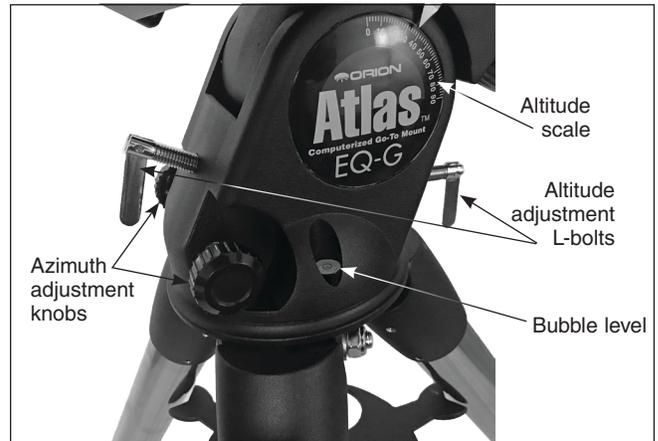

Figure 10. Use the altitude adjustment L-bolts and the azimuth adjustment knobs when polar aligning the mount.
2. Using the bubble level on the mount (see **Figure 10**), level the mount by adjusting the length of the tripod legs as needed.
Setting the R.A. axis to the correct latitude is necessary for accurate polar alignment and tracking. Refer to the latitude scale while rotating the latitude adjustment levers to the proper tilt (**Figure 10**). Loosen one lever while tightening the other. The latitude should be set to the same latitude at which you are located.